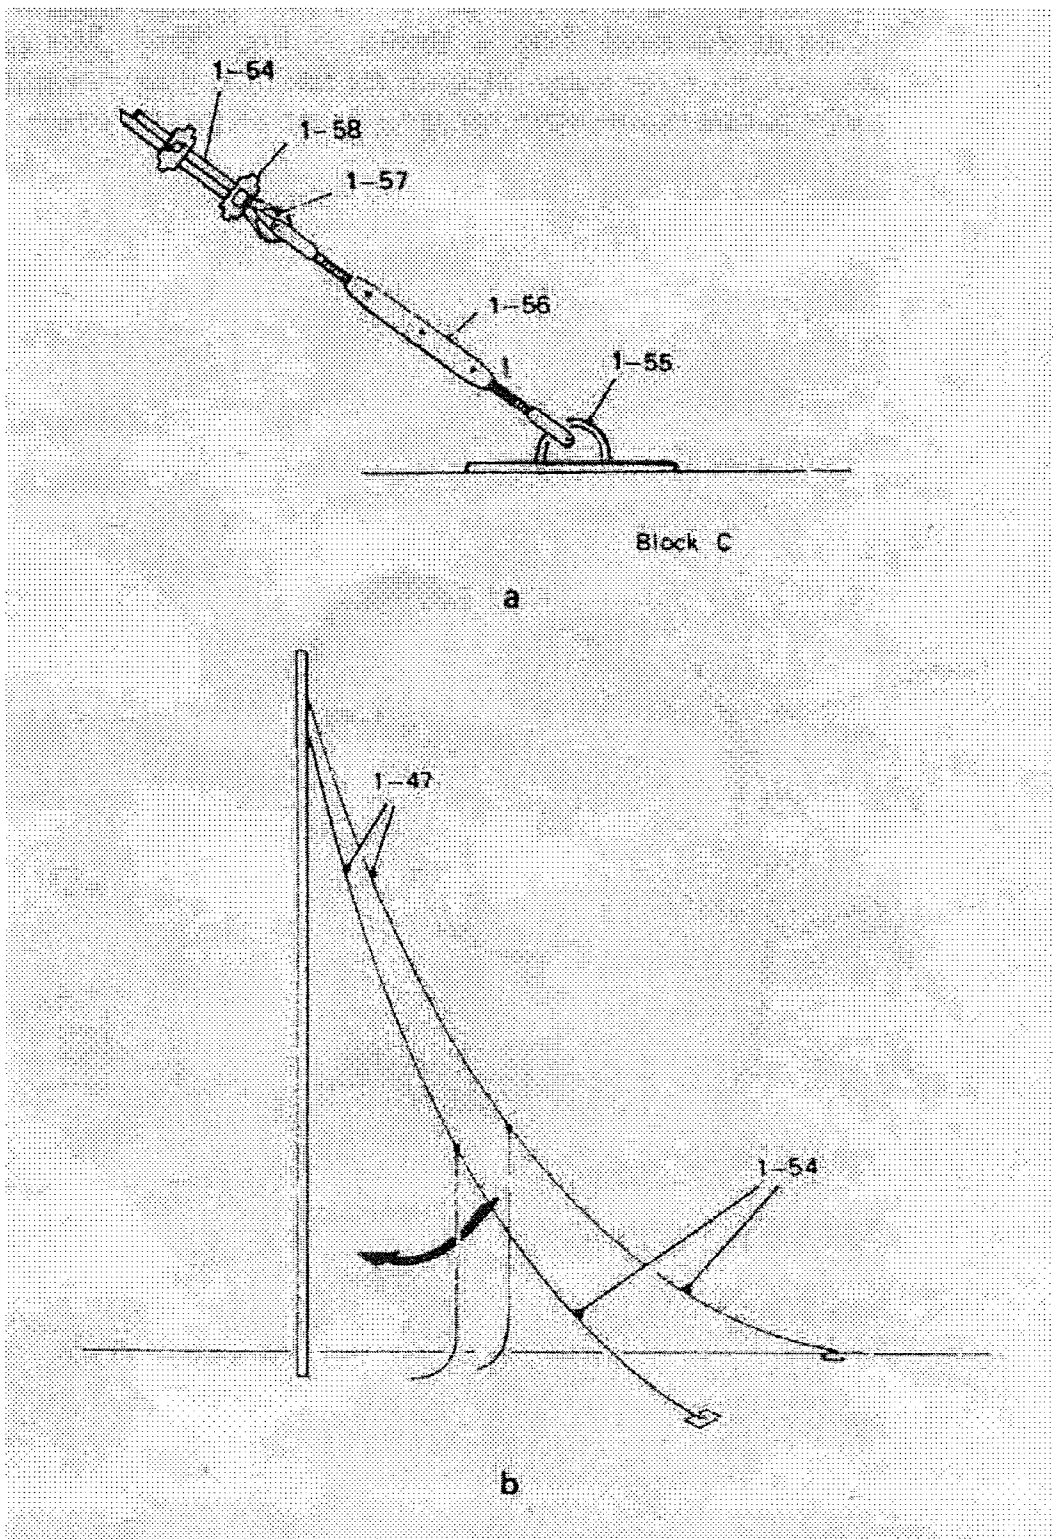

FIGURE 15 – Terminating the Straining Ropes
- Step 3 After each main antenna wire has been fitted to the mast headcap, pull out and secure each straining rope (1-54) to the appropriate foundation Block C, by use of a fully extended rigging screw (1-56), sheave (1-57), and line clamps (1-58), as shown in Fig. 15(a). Straining ropes should NOT be tensioned at this time, but should be adjusted by means of the rigging screws so that the main antenna wires hang very loosely just clear of the mast, as shown in Fig. 15(b).